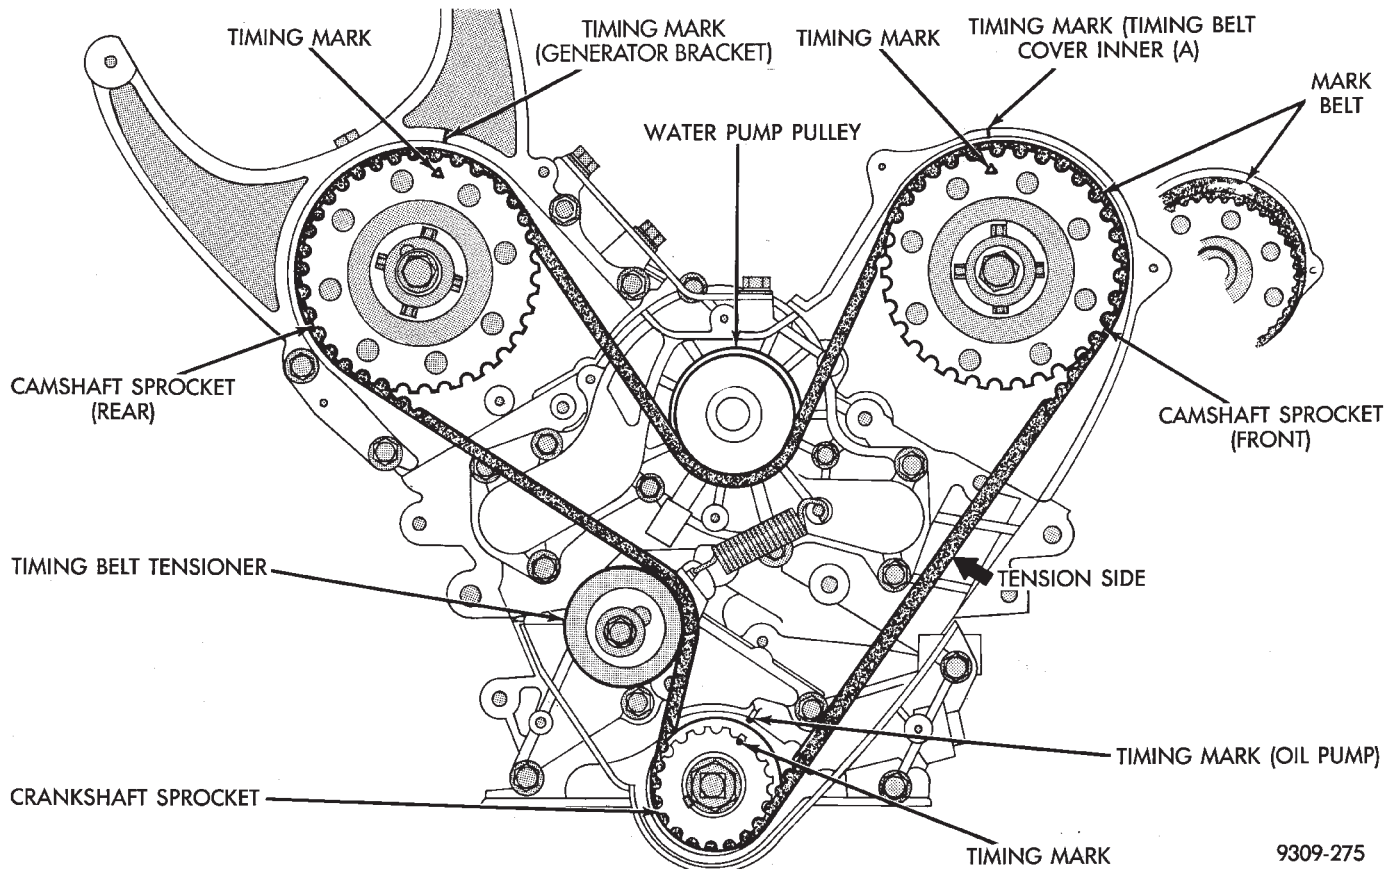

Fig. 14 Timing Belt Engine Sprocket Timing
(1) Mark belt running direction for installation (Fig. 14).
- (1) Install timing belt on crankshaft sprocket first and while keeping belt tight on tension side (Fig. 14) install belt on the front (radiator side) camshaft sprocket.
- (2) Then, install on the water pump pulley and on the rear camshaft sprocket and finally on the timing belt tensioner.
- (3) Apply rotating force to the front camshaft sprocket in opposite direction to tension the belt tension side, check that all timing marks are lined up (Fig. 14).